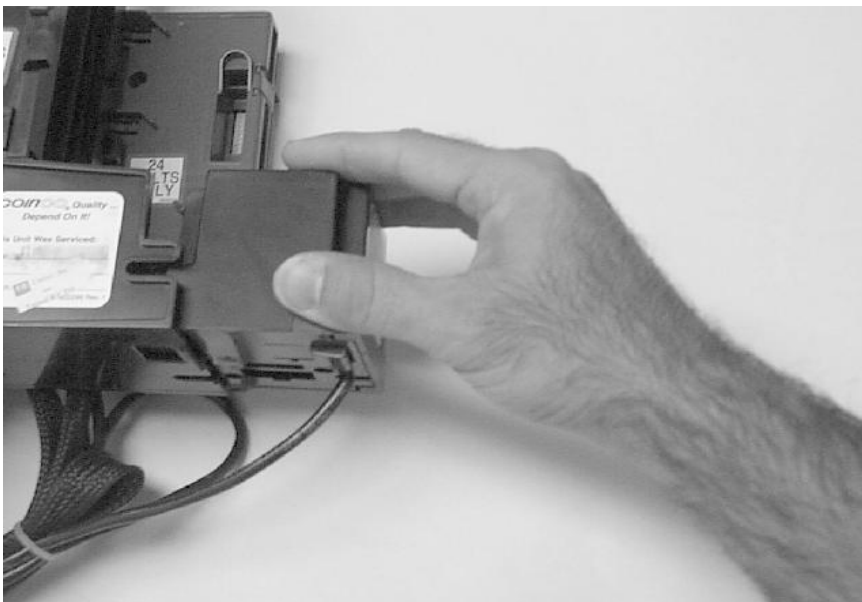

Figure 14. Removing Lower Housing
5. Slide the inner housing out of the back of the validator, revealing the belts, pulleys and sensors. (See Figure 14)